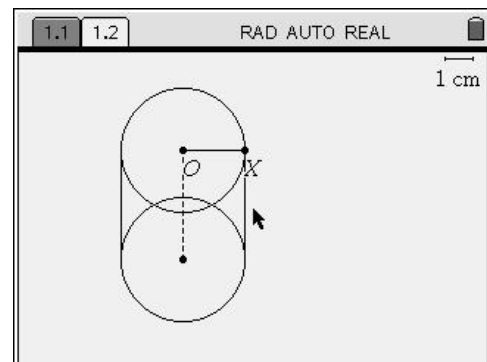

Figure 15
15. Hide the construction lines by pressing $\text{menu} \text{ } 1 \text{ } 2$ for Menu, 1:Action, 2:Hide/Show. Click on the horizontal line, all 3 vertical lines (but not the segments), and all the points except pts. O & X to hide them. Change the center segment, OY, to dashed by moving the cursor to the segment until it flashes and the text reads, “segment OY”. Press $\text{ctrl} \text{ } \text{menu}$ and choose 2:attributes. Arrow down to the middle box & right arrow to choose, “Line style is dashed”. Press enter . (Figure 15)